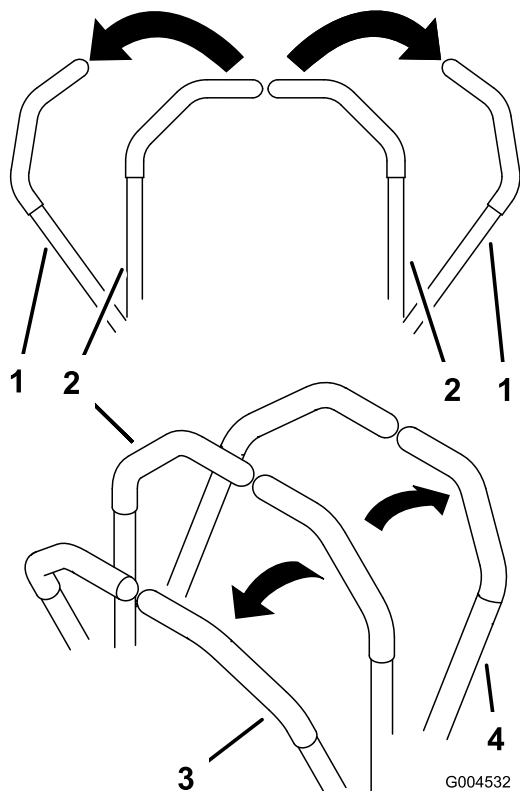

Figure 18
3. To go forward, slowly push the motion control levers forward (Figure 18).
To go straight, apply equal pressure to both motion control levers (Figure 18).
To turn, move the motion control lever toward neutral in the direction you want to turn (Figure 18).
2. To go backward, slowly pull the motion control levers rearward (Figure 18).
To turn, release pressure on the motion control lever toward the direction you want to turn (Figure 18).